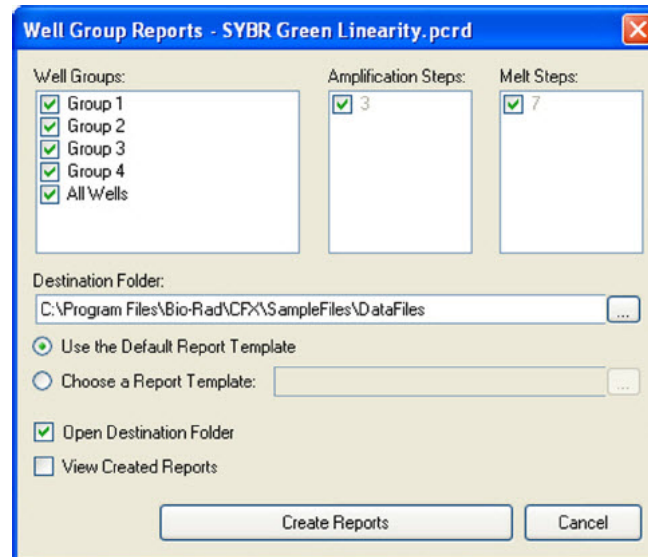

Figure 63. Well Group Reports window.
2. From the **Well Groups Reports** window (Figure 63) the Well Groups, Amplification Steps, and Melt Steps to be included in the reports can be specified by checking the appropriate box.